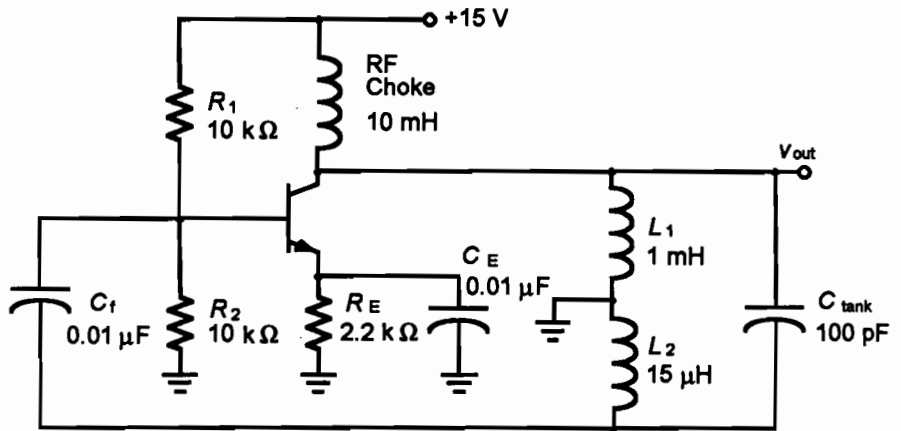

Figure 52.1
1. Construct the circuit in Figure 52.1.
3. Calculate the resonant frequency for the circuit in Figure 52.1.